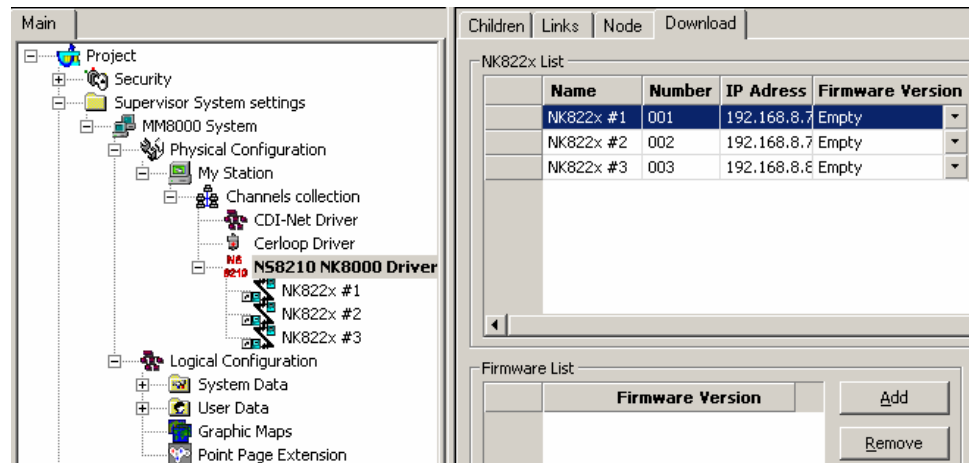

Fig. 6 'Download' tab
4. Select the 'NS8210 driver' node and then the 'Download' tab (Fig. 6).